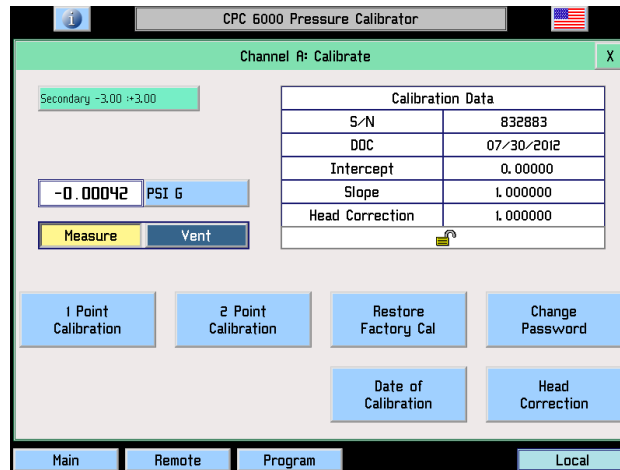
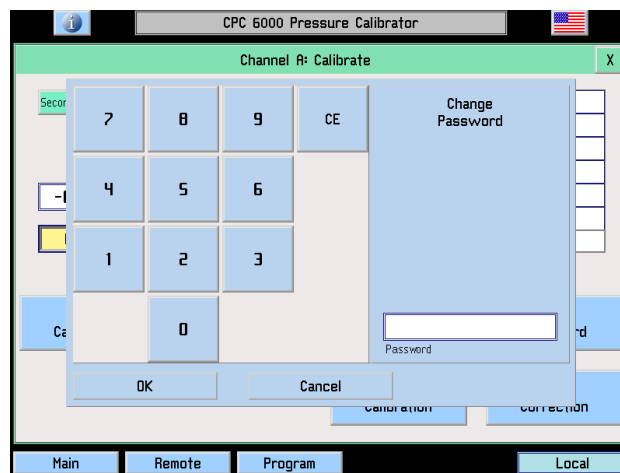

Figure 10.6.1C - Calibration Data Screen (unlocked)
Figure 10.6.1D - “Change Password” Window
- The Calibration Data screen of Figure 10.6.1C is displayed. Use this screen to change the password to perform functions for 1 point calibration, 2 point calibration, restore factory cal, and head correction. Touch [Change Password] and the Change Password window appears as in Figure 10.6.1D.
8. Confirm that the new password is valid by pressing [Main], then repeat steps 1 through 3 to return to the Calibration Data screen (Figure 10.6.1C). If this screen can't be accessed using either the old or the new password contact Mensor.
The offset and slope values established for each turndown at the final factory calibration are stored in permanent memory within each transducer. These factory values can be restored at any time regardless of the number of subsequent calibrations. To restore the factory calibration to the active turndown, press [Restore Factory Cal] on the unlocked Data Entry screen seen in Figure 10.6.1C. This will restore both the factory zero offset and slope calibration values to the active turndown. The [Restore Factory Cal] function can be repeated for each turndown as desired.